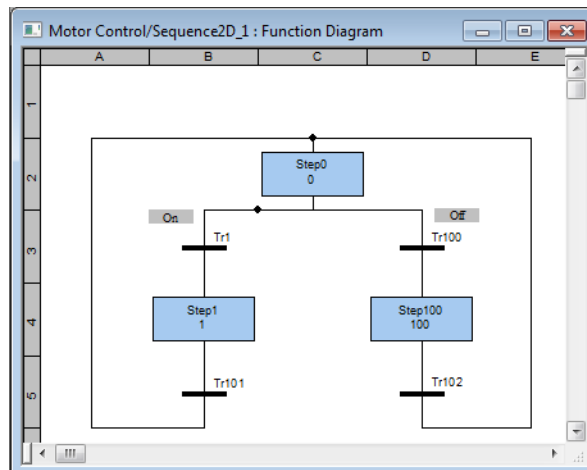

Figure 43. Overview Diagram
11. Add two transitions (Tr101 and Tr102) and complete the workflow as shown in Figure 43.